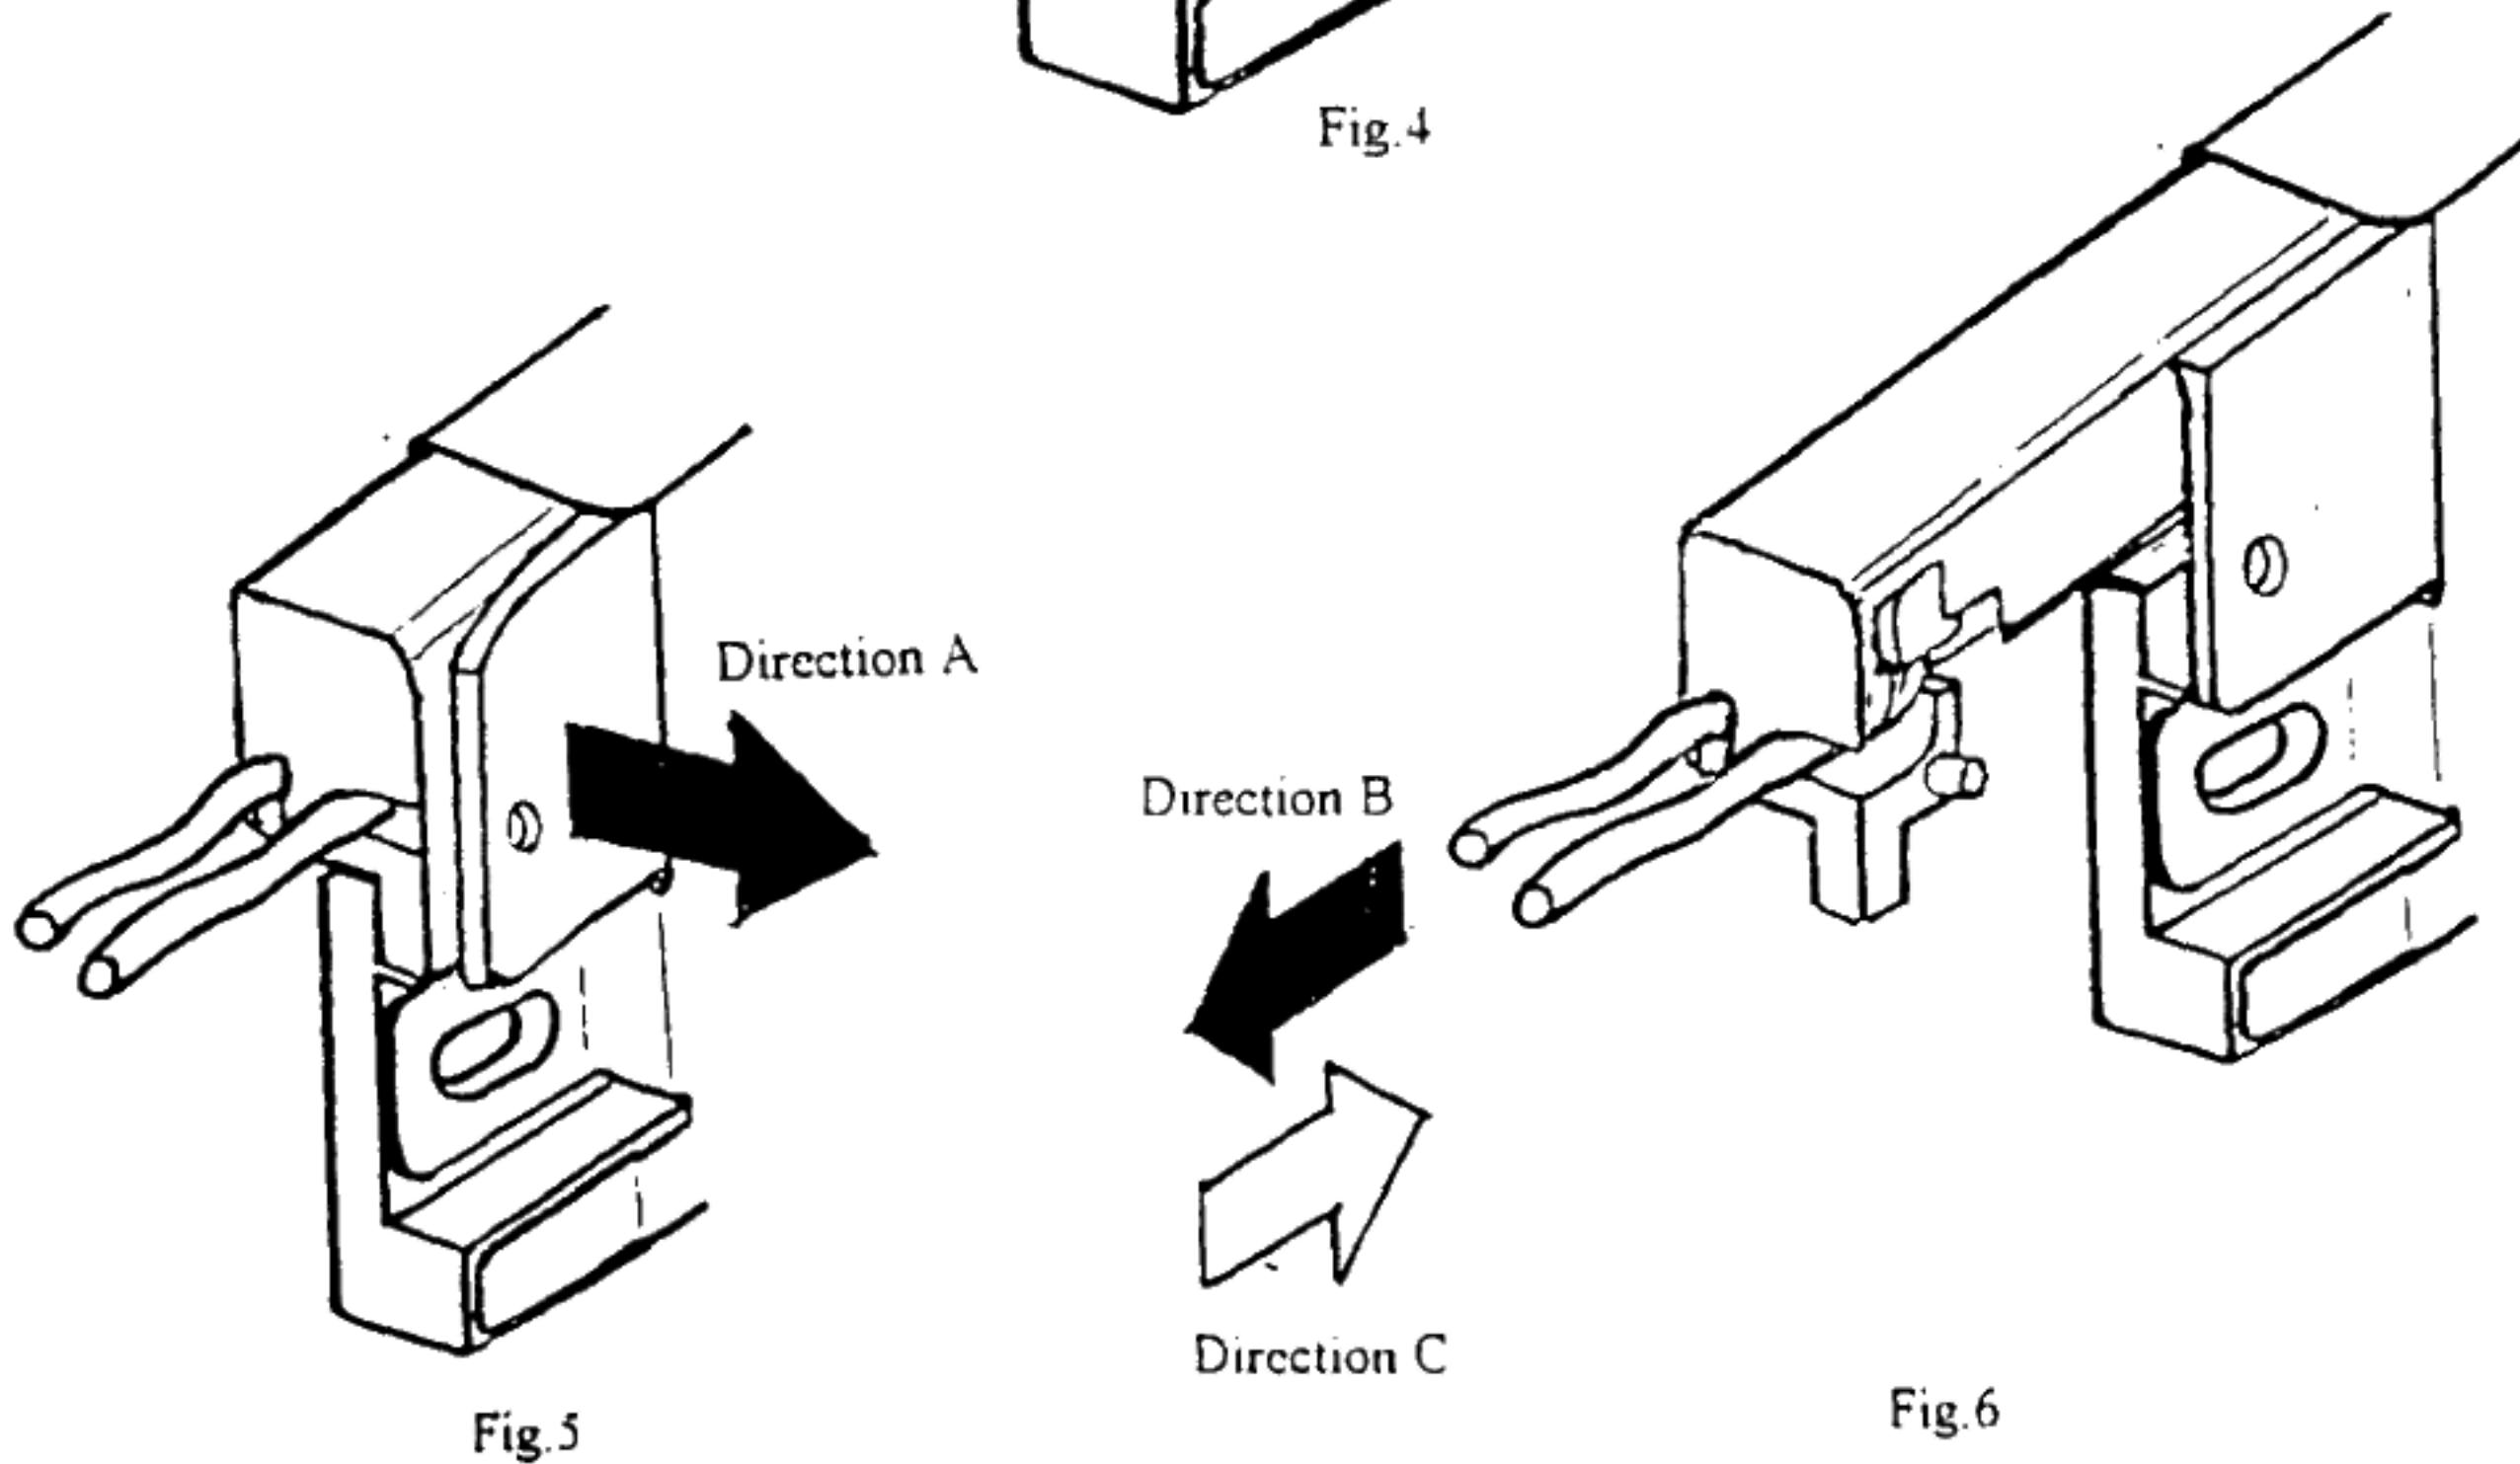

Fig.5
- 2) The projection can be relieved by bending the rear side board to the direction A with hand or minus driver. (refer to fig 5)